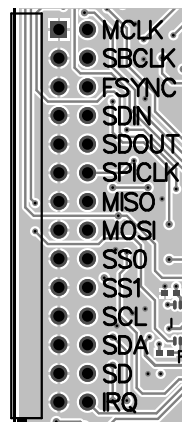

Figure 6. EVM Signals
- Set the VCC-I2S Select jumper to match the logic level of the user supplied signal as shown in Figure 6
- Set the IOVDD Select jumper to match the operating logic level of the test device as shown in Figure 6
- Remove the AS1 SEL jumper from the control header shown in Figure 6
- Set the VCC-I2C Select jumper to match the logic level of the user supplied signal as shown in Figure 6
- Remove the I2C Select jumper from the control header shown in Figure 6
- Remove the SPI Select jumper from the control header shown in Figure 6